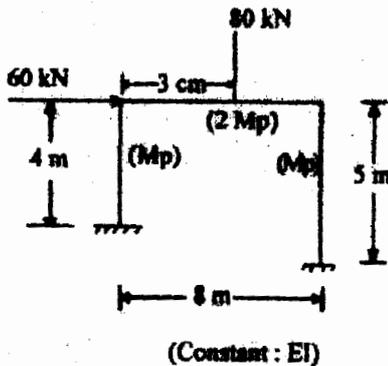

Fig. 9
- (b) Determine the plastic moment capacity M_p for the frame shown in fig 9 given below: